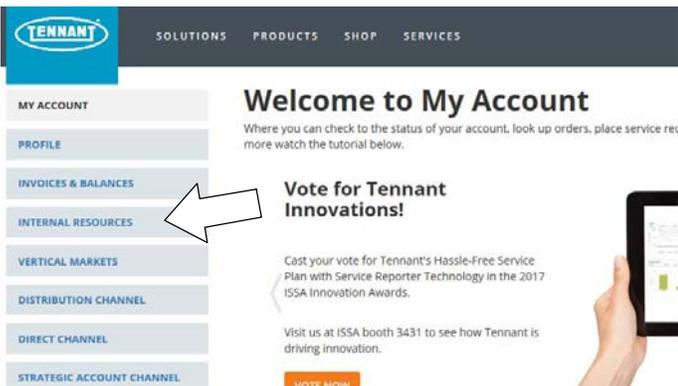

Fig. 18
2. Once logged in to the “My Account” website, click on the “INTERNAL RESOURCES” link as shown below (Figure 18).